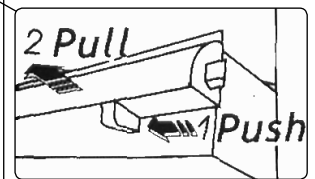

Fig.2
- 3.2 Each drawer is fitted with a self locking catch mechanism on the right hand side of the drawer underneath the handle, to open drawer push the catch to the left to release the catch and pull the drawer open (fig.2). **WARNING!** Only open one drawer at a time.